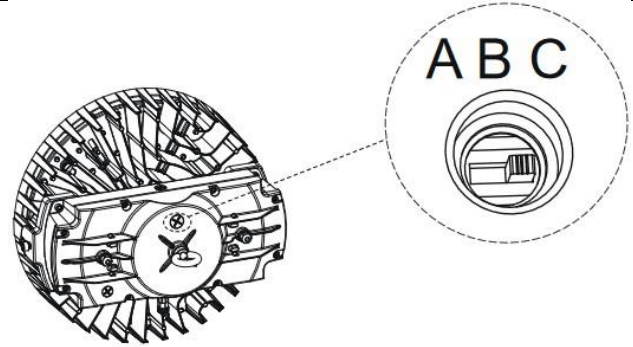

Figure 15
- The default factory setting is maximum power. (Figure 15)